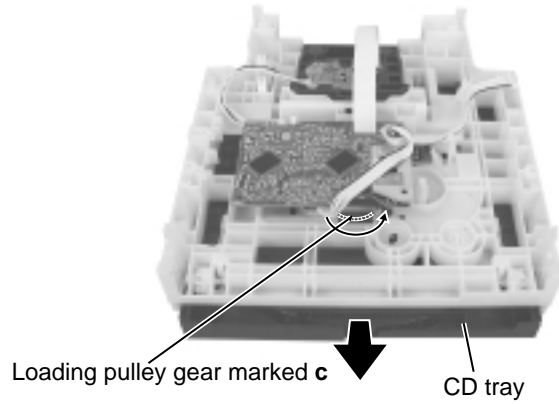

Fig.26
■ Removing the CD tray (See Fig.26 to 28)